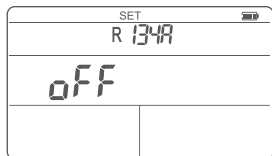

FIG. 9 Automatic Shutdown Interface
2. Short press the  key twice to switch to the automatic power-off setting [FIG.9].
3. Press  or  key briefly to set the automatic power-off time (5, 10, 15, 30, or 60 min) [FIG.9].